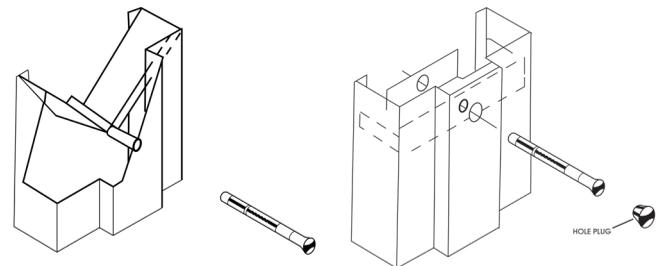

Figure 6 - Anchors
6. Insert anchor bolts and tighten securely, checking for frame alignment periodically (see figure 6)